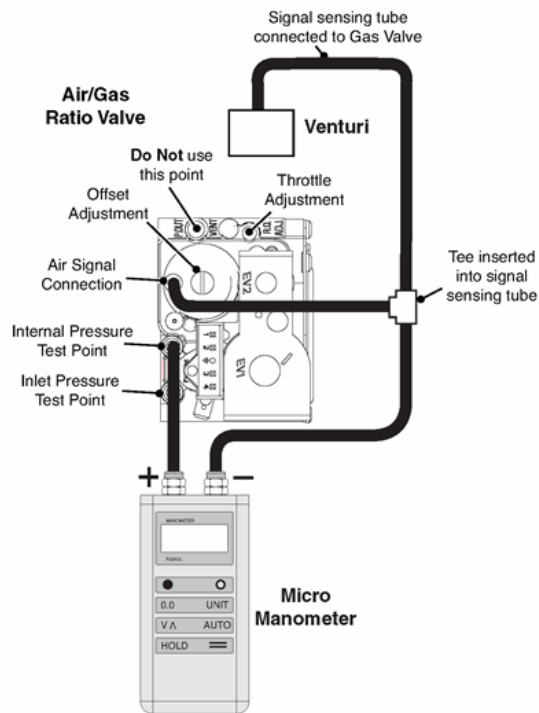

Fig. 77
2. Tee the - (negative) side of the micro manometer into the air sense tube (Fig.77).